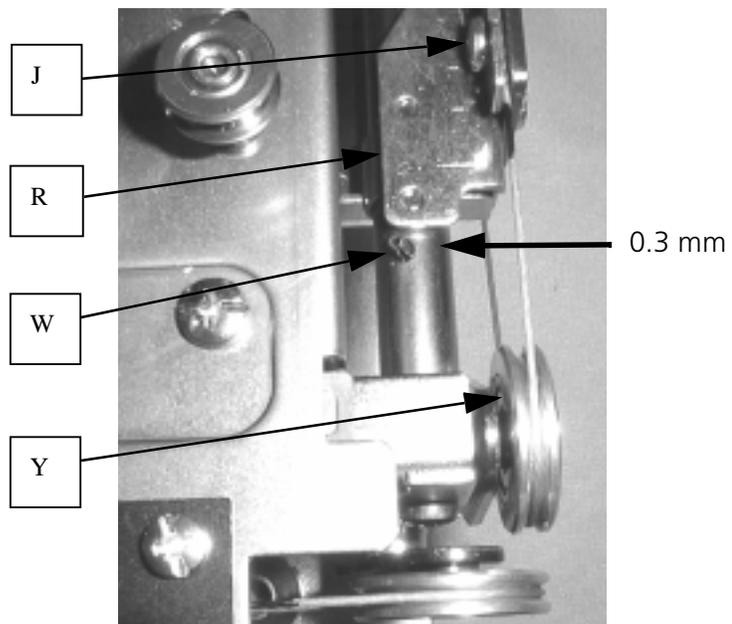
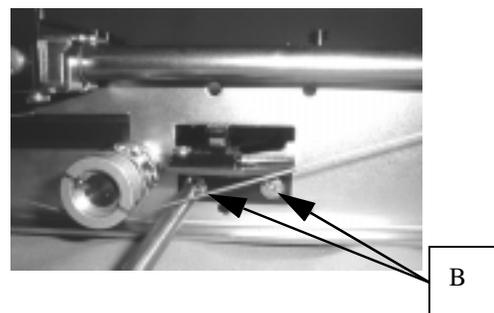
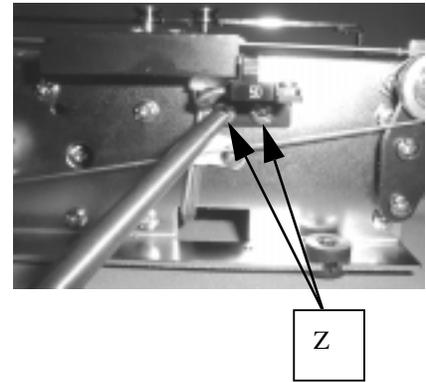

FIGURE 16-12
FIGURE 16-13
FIGURE 16-14
21. Continue pushing ← key as shown in Fig.16-12 to bring the X-carriage (R) in the Y-sensor direction until it no longer moves, and make sure that the gap (a) between the spring pin 2x16(W) and X-carriage (R) is more than 0.3mm. If the gap (a) is less than 0.3mm, loosen setscrews (B) of X-sensor, and relocate the X-sensor leftward. Fig.16-13. Push → key, and make sure that the gap (a*) between the side plate A and X-carriage (R) is more than 0.3mm.
22. If the Y-direction wire has been replaced, make sure that gaps (b) and (b*) between the Y-carriage and stopper (Y) are more than 0.3mm by using \uparrow and \downarrow keys before and after replacement. If gap (b) is less than 0.3mm as shown in Fig.16-12, loosen setscrews (Z) of the Y-sensor and shift the Y-sensor backward (or leftward in case of Fig.16-14).